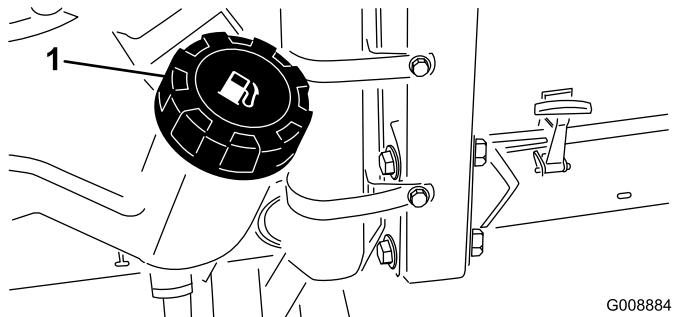

Figure 29
- Clean the area around the fuel-tank cap (Figure 29).